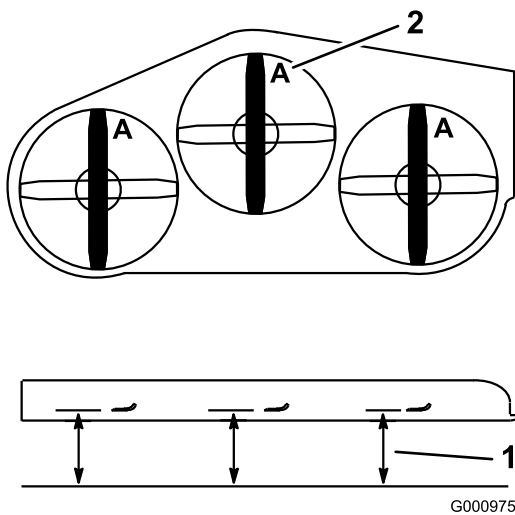

Figure 81
3. Rotate the blades until the ends face forward and backward (Figure 81). Measure from a level surface to the cutting edge, position **A**, of the blades (Figure 81). Note this dimension.